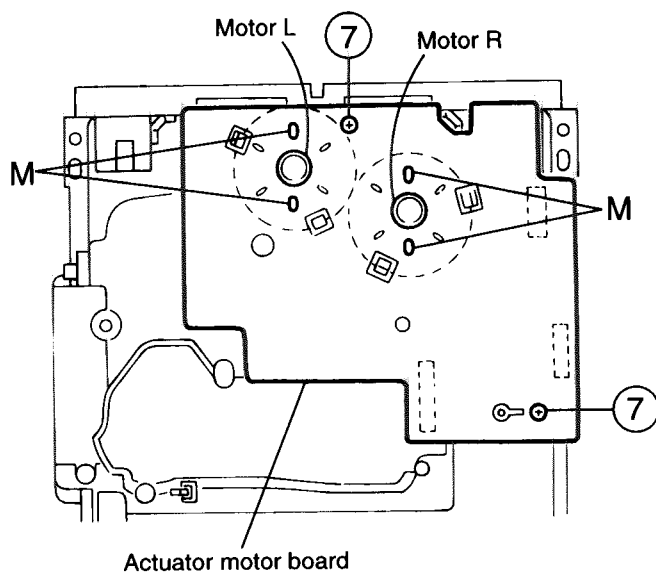

Fig.14
■ Removing the actuator motor board (See Fig.14, 15)
1. Absorb the four soldered positions "M" of the right and left motors with a soldering absorber(See Fig.14).
2. Remove the two screws 7 retaining the actuator motor board(See Fig.14).